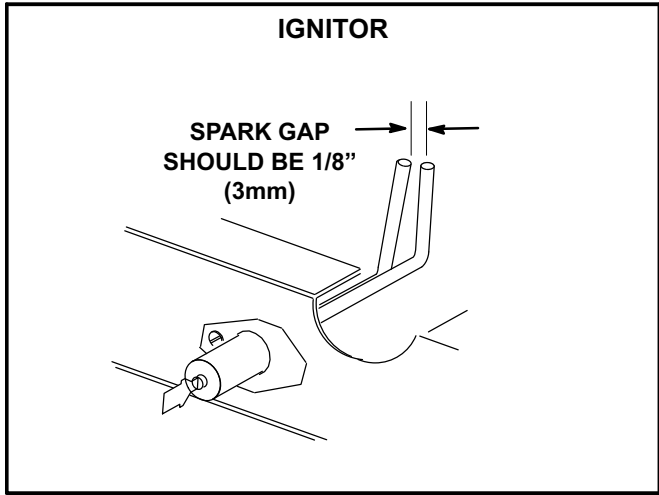

FIGURE 20
- 4- Locate the ignitor under the left burners. Check ignitor spark gap with appropriately sized twist drills or feeler gauges. See figure 20.